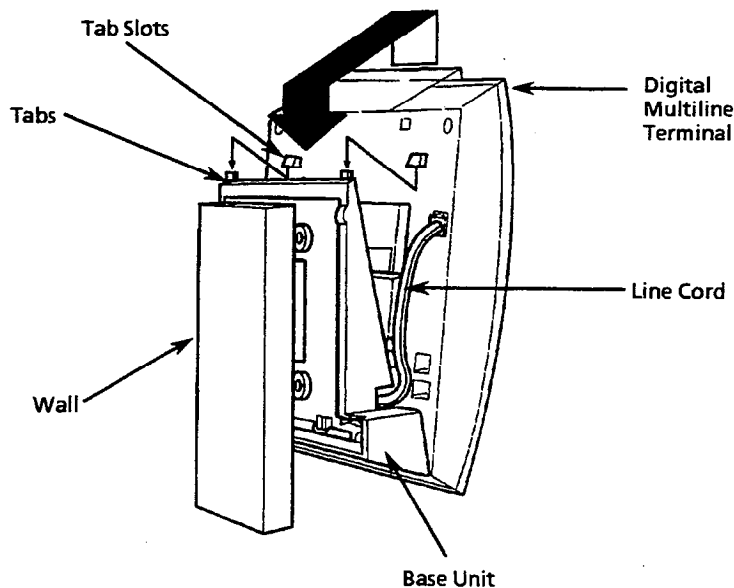

Figure 4-25 Attaching the Top Tabs of the Digital Multiline Terminal to the Base Unit
6. Push up on the terminal and lock the top tabs on the base unit in the tab slots on the Digital Multiline Terminal. Refer to Figure 4-25 Attaching the Top Tabs of the Digital Multiline Terminal to the Base Unit.